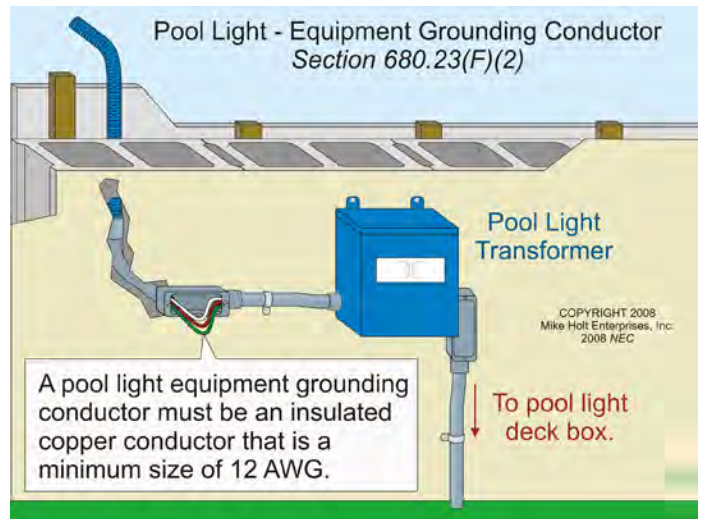

Figure 680-24
(2) Equipment Grounding Conductor. Branch-circuit conductors for an underwater luminaire must contain an insulated copper equipment grounding conductor sized in accordance with 250.122, but not smaller than 12 AWG. **Figure 680-24**